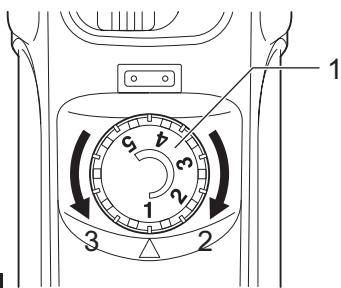

Fig.2
► Fig.2: 1. Speed adjusting dial 2. Higher 3. Lower